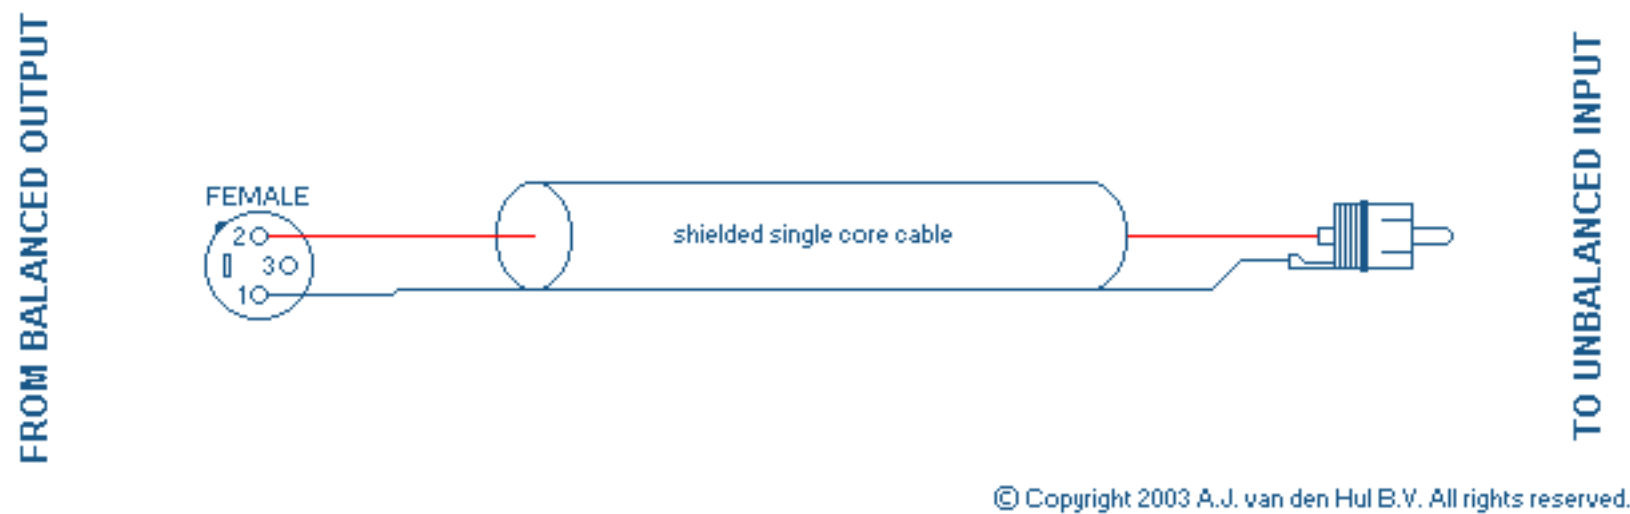

Fig. 2: If the signal source is equipped with a cross coupled output stage: (See remarks below).
2. Much more sophisticated is the so-called "cross coupled output stage" in which two cross coupled opamps mimic an output transformer. Here the above Fig. 2's wiring configuration is recommended.
Regarding Fig. 2 and Fig. 3: